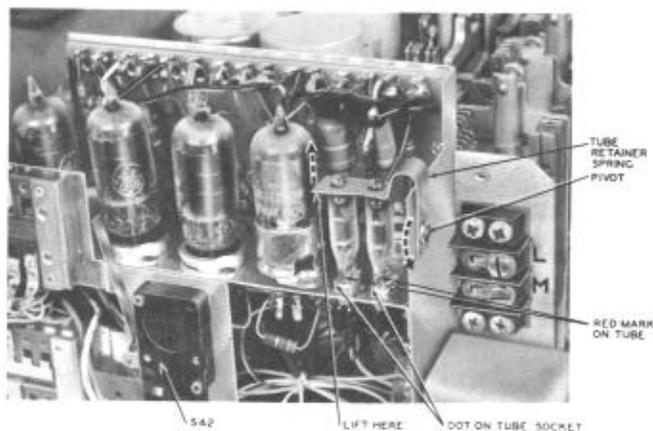

Fig. 5—1B Telephone Answering Set—Showing Electron Tubes and Tube Retainer Spring
- (1) Lift the end of the spring (tube retainer) until it clears the tips of the CK-512AX tubes, then rotate until it will not touch the tubes when it is released (see Fig. 5).
- (2) Gently withdraw the CK-512AX tube to be removed from its socket.
Caution: Be certain that the CK-512AX tubes are reinserted in their sockets so that the red mark on the tube base coincides with the molded dot on the socket and the red dot on the chassis (see Fig. 5).